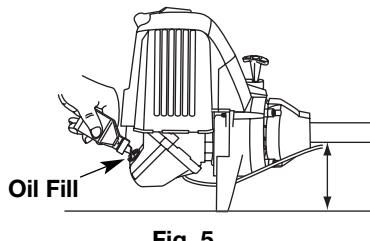

Fig. 5
2. Place the unit on a flat level surface (Fig. 5).